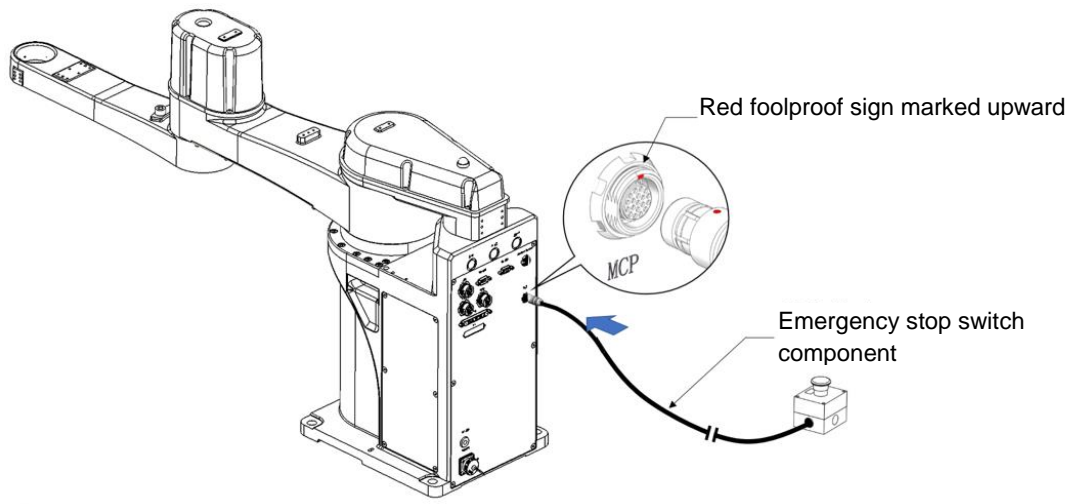

Figure 5-9 Schematic diagram of emergency stop device connection
Step 2 Insert the other end of the network cable into the PC or IPC port as shown in Figure 5-9.